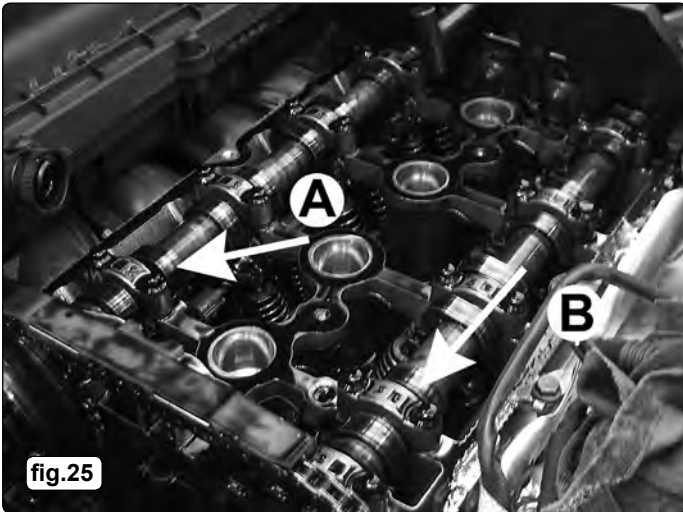

fig.25
3.4.7. The cam lobe on the inlet camshaft at cylinder number 1 **(A)** points upwards and to the right and the cam lobe on the exhaust camshaft at cylinder number 1 **(B)** points downwards and to the left, when viewed from the direction of the VANOS adjustment unit (**fig.25**).